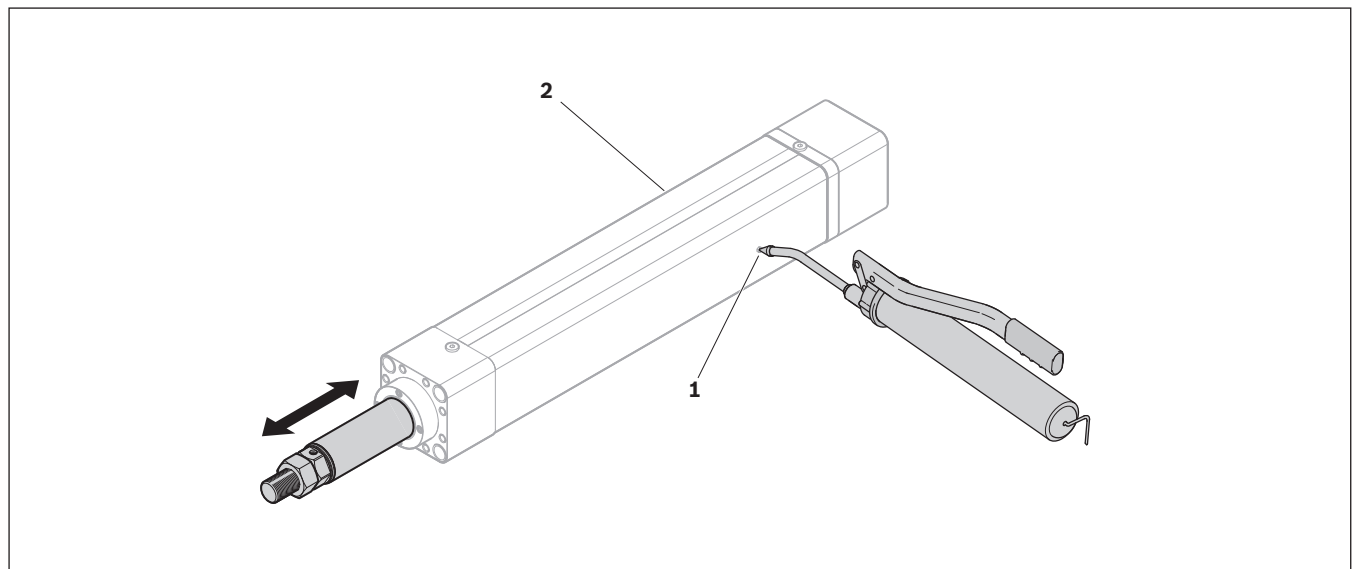

Fig. 34: Lubricating the EMC-HP
- 3. Apply grease to the screw drive via the lube nipple **(1)** or **(2)** ➡ Fig. 34 on page 35. Apply the grease in several partial amounts. Travel over the entire stroke between lubricating procedures.